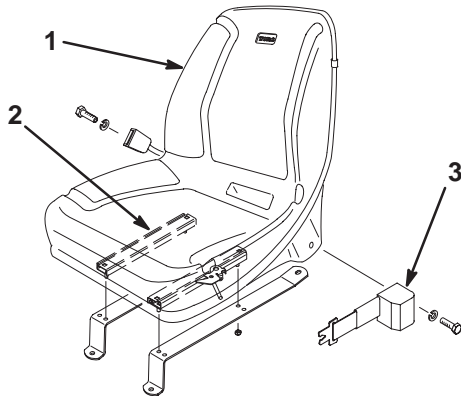

Figure 4
2. Secure the seat mounting straps to the seat adjusters with 4 flange nuts (standard seat) or 4 bolts, flat washers, and flange nuts (deluxe seat) (Fig. 4). The mounting fasteners are supplied with the seat kits.
3. Attach the seat belt to the holes on each side of the seat with 2 bolts and lockwashers (standard seat) or 2 bolts and locknuts (deluxe seat) (Fig. 4). All mounting fasteners are supplied with the seat kits.